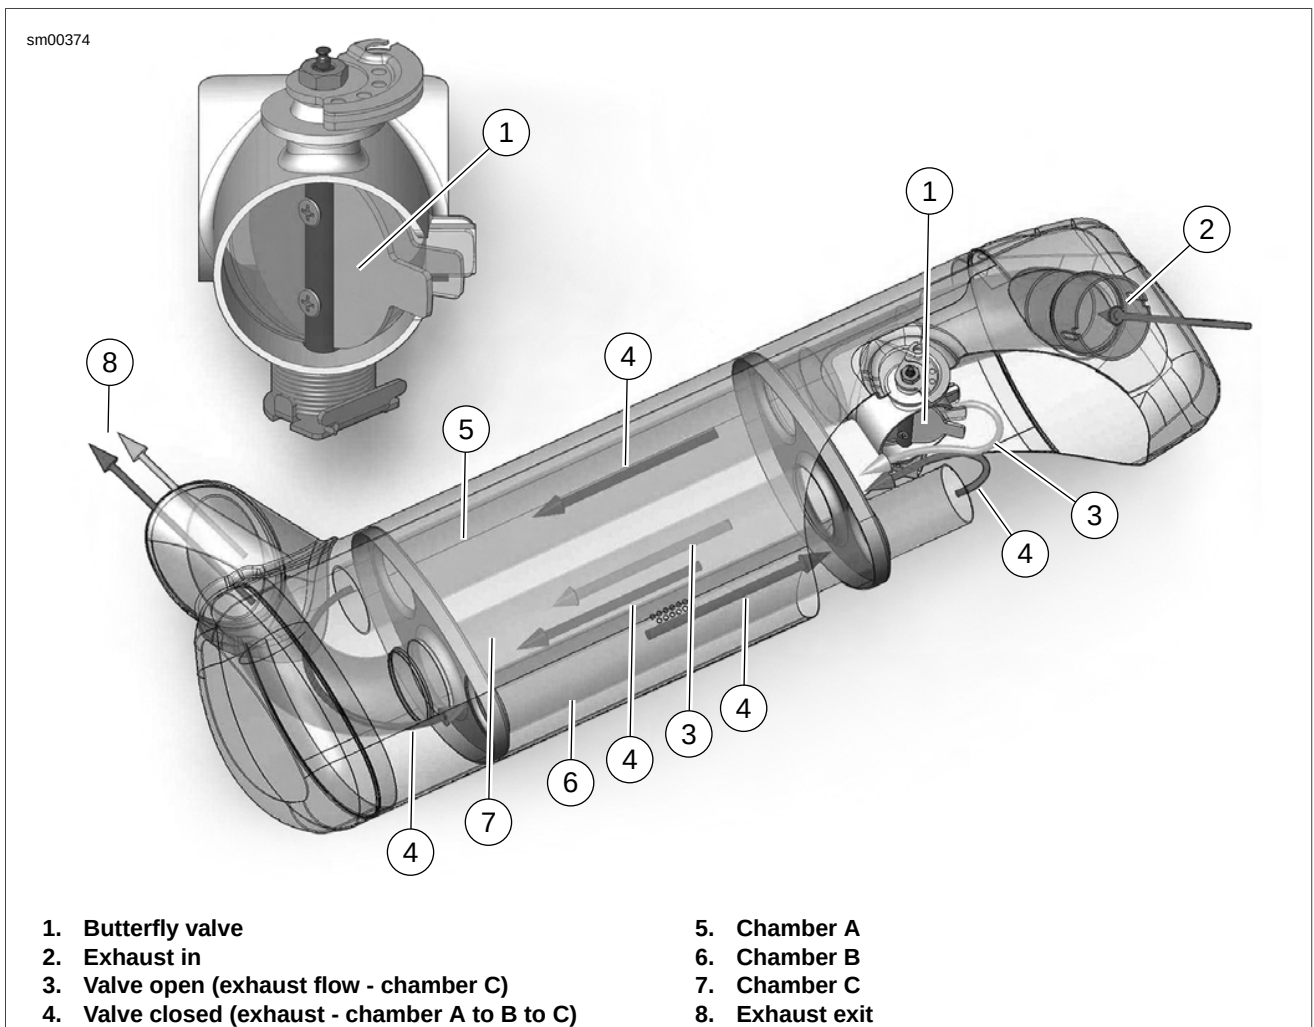

Figure 7-54. Interactive Exhaust System Muffler
See Figure 7-54. An electronically controlled actuator opens or closes a butterfly valve (1) that controls exhaust flow in a multi-chamber muffler.